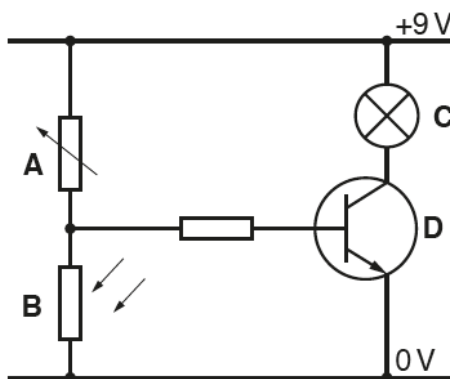

Fig. 1
- 2 Fig. 1 shows a circuit diagram.
- (a) Complete the table below by naming each component from its symbol shown in Fig. 1.
(b) Explain why a fuse would be connected in the circuit shown in Fig. 1.